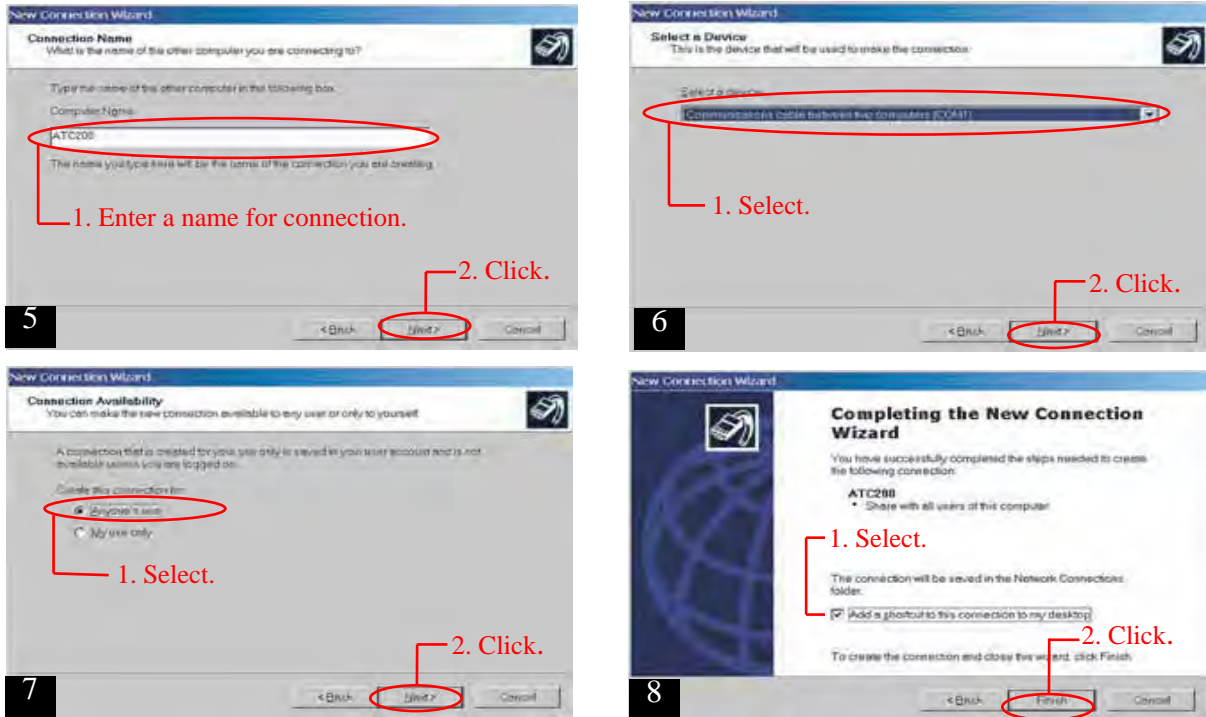

Figure 5-15. Setting Up a Direct Serial Connection (Screens 5 through 8).
8. Enter in a name for the connection, and click on **Next** (Screen 5, Figure 5-15) .
9. Select **Communications cable between two computer (COM1)** from the drop down menu if it is not the default that appears, and click on **Next** (Screen 6, Figure 5-15).
10. Select **Anyone's use**, and click on **Next** (Screen 7, Figure 5-15) .
11. Place a check mark in the box next to **Add a shortcut . . .**, and click on **Finish** (Screen 8, Figure 5-15).